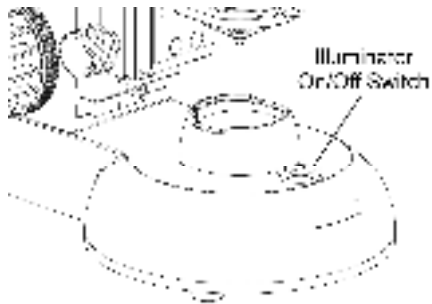

Fig.2
- Turn on the power switch at the back of the arm. (Fig.2)